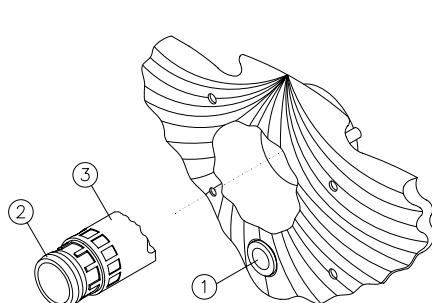

Fig. 9a
From inside the swimming pool, start the HIDROJET, by pressing the pneumatic switch (no.1, fig. 9a-9b). With the unit running you can obtain a current of water alone, or mixed water and air, by setting the front nozzles (see fig. 9a-9b) as described below:
- Current of water only: The maximum flow of water is obtained by turning the internal nozzle (no.2, fig. 9a-9b) to the left. The flow rate is reduced by turning it to the right.
- Current of air and water: To control, or eliminate, the flow of air, turn the external nozzle (no.3, fig.9a-9b) to the left or right.